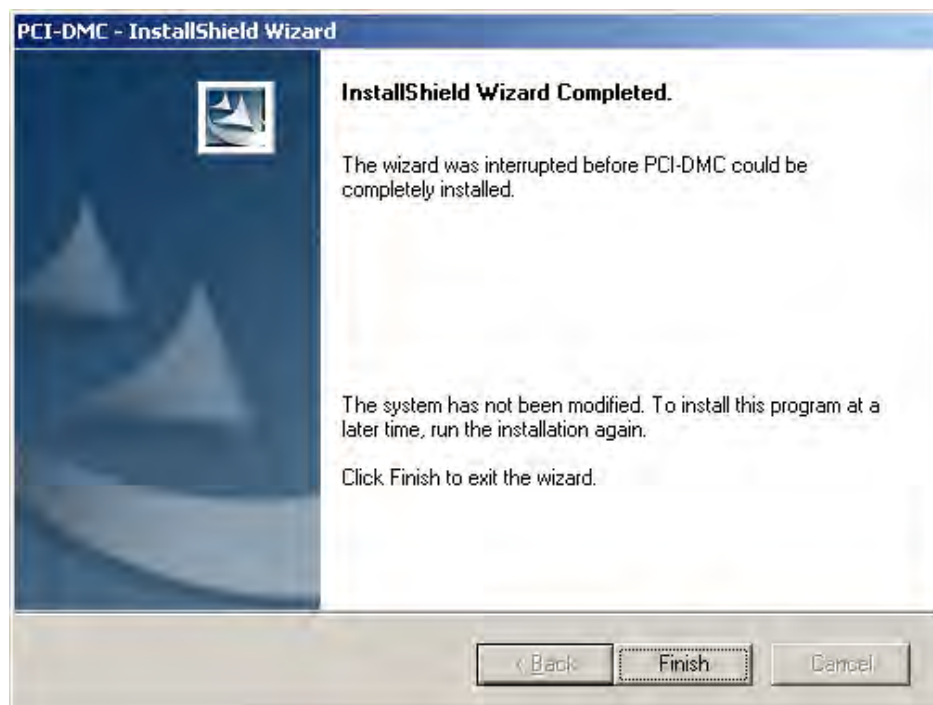

Figure 2.18
Step 6: As shown in Figure 2.18, the driver software has been successfully installed. Click on "Finish" to complete the installation process.